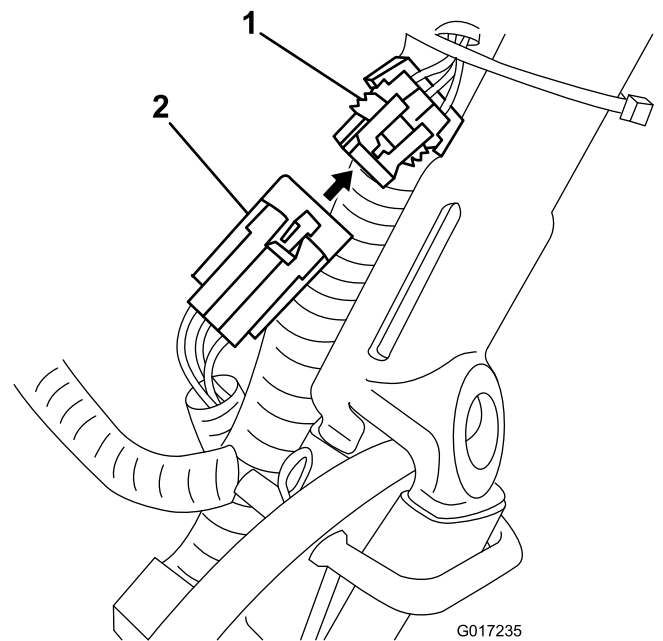

Figure 14
3. Disconnect the small connector on the pack to machine wiring harness from the main wiring harness (Figure 14).
14. Route the pack to machine wiring harness under and behind the main harness on the left side of the machine and connect the small, 6-pin connector on the harness to the matching connector on the main wiring harness as shown in Figure 14.